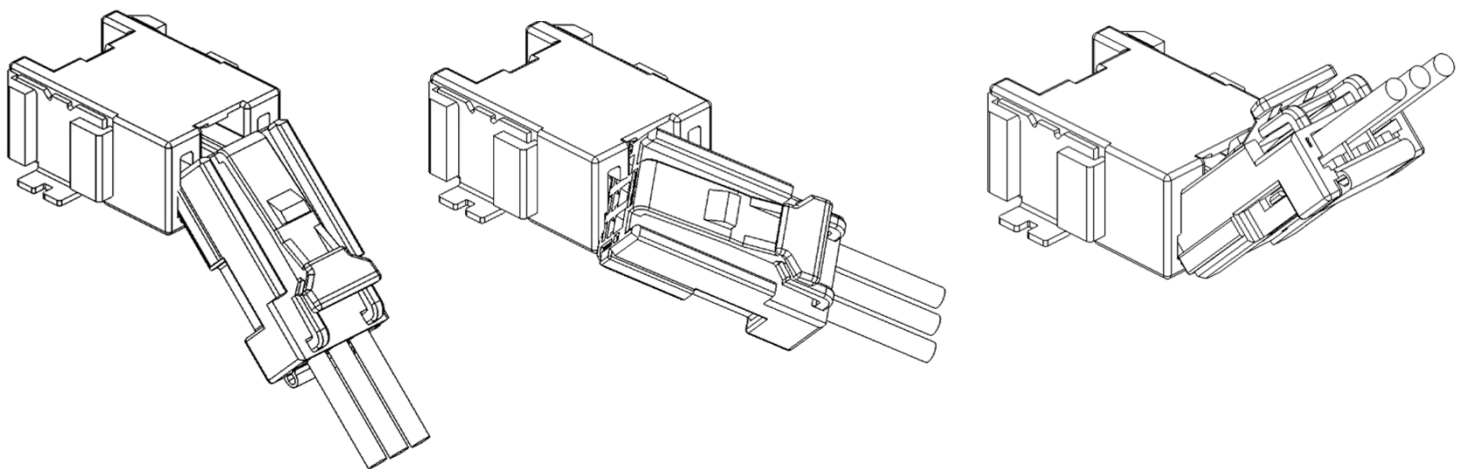

Fig 51. Mating orientations (not advisable)
① Only mate the connector in the direction instructed above. Do not forcefully mate in any orientation shown in Fig.51.